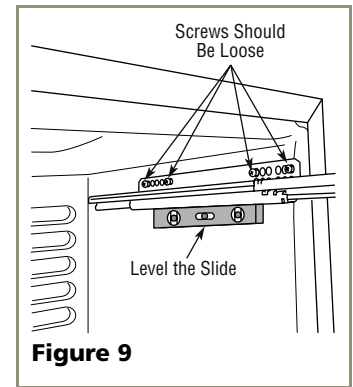

Figure 9
3. Retighten the screws. See **Figure 9**.